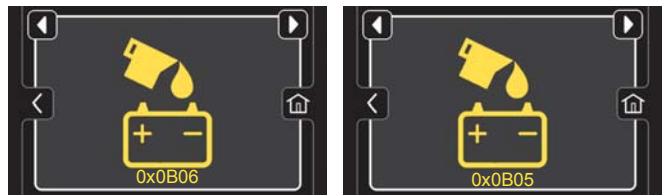

FIG. 78
**Yellow Automatic Battery Watering Fault Screen** - Code 0x0B06 - The Automatic Battery Watering tank is empty and needs refilling (Figure 78). To protect the batteries from damage, the machine's scrub function will be disabled after 10 hours of continued use if tank is not refilled. Add distilled water to the battery watering tank and restart key to clear fault. See FILLING AUTOMATIC BATTERY WATERING TANK.